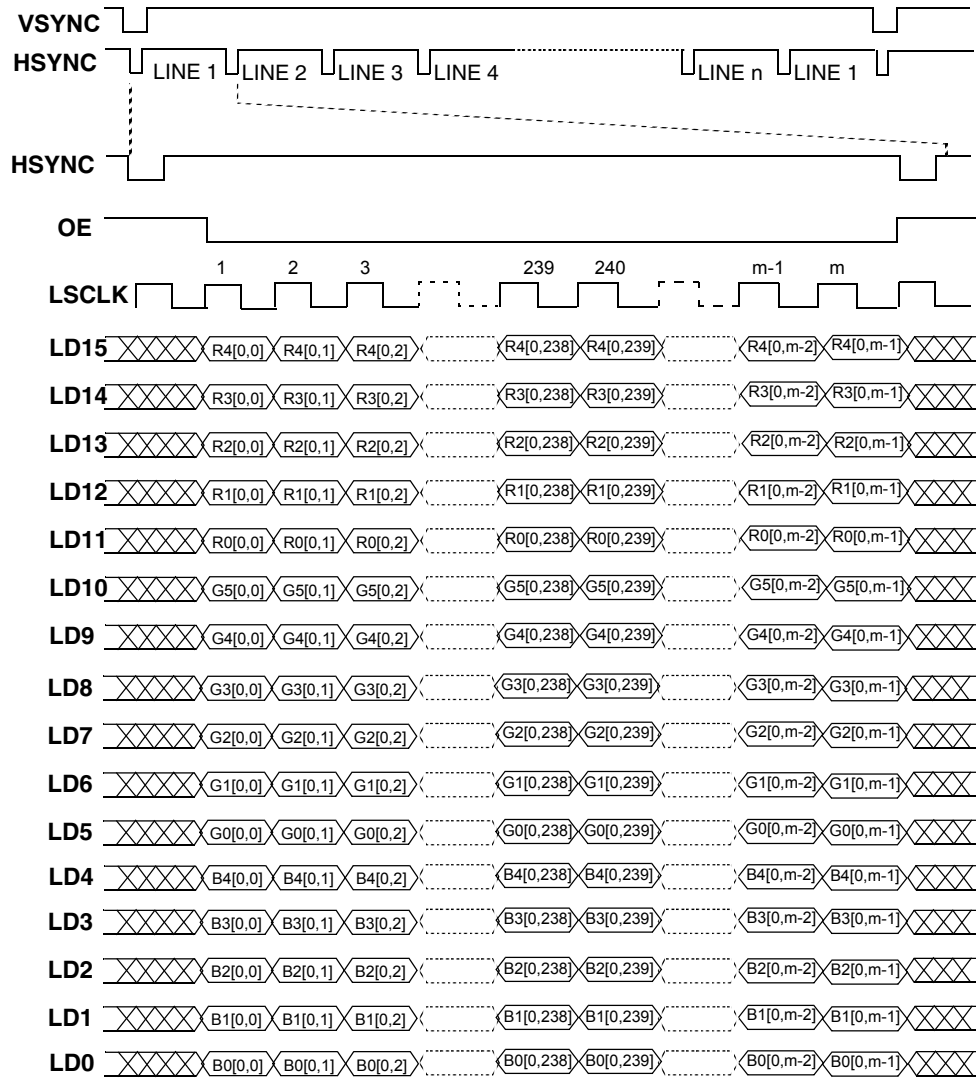

Figure 17-14. LCDC Interface Timing for Active Matrix Color Panels
Figure 17-14 on page 17-16 shows the LCD interface timing for an active matrix color TFT panel. In this figure signals are shown with negative polarity (FLMPOL=1, LPPOL=1, CLKPOL=0, OEPOL=1). In TFT mode, the LSCLK is automatically inverted. The panel interface timing for active matrix panels is sometimes referred to as a “digital CRT” and is controlled by the shift clock (LSCLK), horizontal sync pulse (HSYNC, the LP pin in passive mode), vertical sync pulse (VSYNC, the FLM pin in passive mode), output enable (OE, the ACD pin in passive mode), and line data (LD) signals. The sequence of events for active matrix interface timing is: